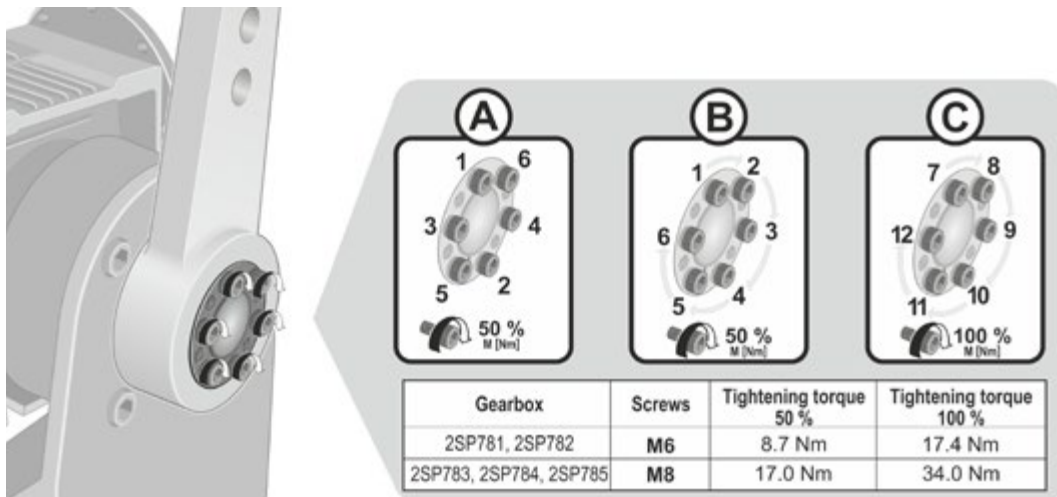

Fig. 3: Tighten cone clamping element
5. Tighten clamping screws as follows, refer to fig. 3, sequence shown in A, B and C:
- Tighten all clamping screws **clockwise one after the other at half the tightening torque** (see table), refer to B in fig. 3, (sequence 1 – 6).
- After that, tightening all clamping screw **clockwise one after the other and several times at full tightening torque**, refer to C in fig. 3.